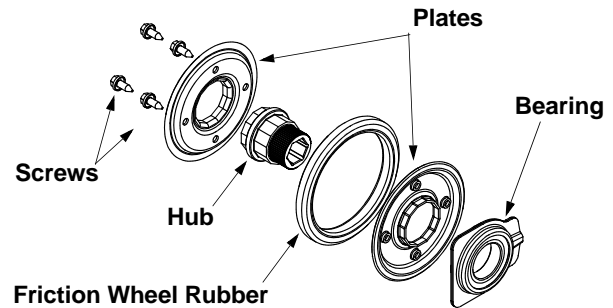

Figure 25
- Remove four screws securing the friction wheel rubber between the friction wheel plates. See Figure 25. Discard old rubber.
- Reassemble the new friction wheel rubber to the friction wheel assembly, tightening the four screws in rotation and with equal force. See Figure 25. It is important to assemble the rubber on the friction wheel symmetrically for proper functioning.